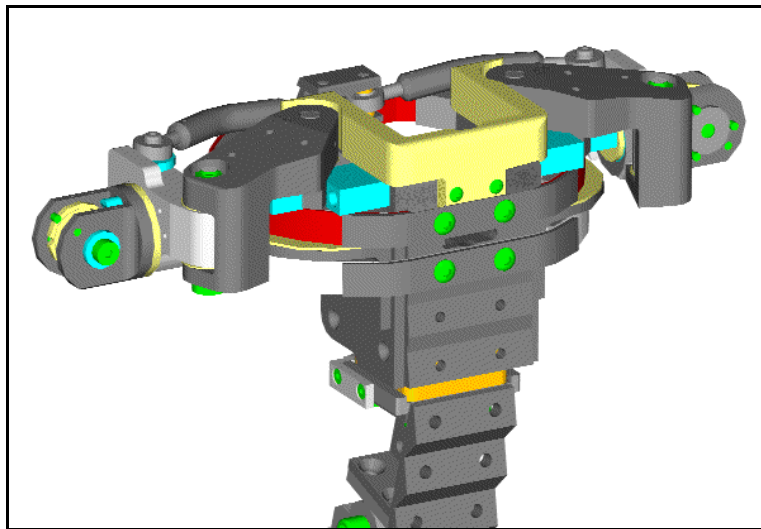

Figure 7.9- Positioning of Rib #2
6. Position Elliptical Rib #1 (T1TXM310) as shown in **Figure 7.9**. This rib assembly is marked with the number “1”, the mark being oriented correctly to denote the top and bottom of the rib. The rib must be located above the rib support bracket and the rear of the rib should be centered over the Upper Thoracic Spine Weldment to line up the holes. Since the shoulder hardware can make insertion of this rib troublesome, the following description may be helpful for positioning this rib: Pass the open end of rib around the right-hand clavicle rod at the front of the dummy and above the rib support on the right-hand side (with the open end facing the rear of the dummy). Rotate the rib (clockwise as viewed from the top) around the upper thoracic spine until the open end is again at the front (i.e. the rib must pass across the rear of the upper thoracic spine weldment and above the other rib support).
8. Position Elliptical Rib #2 (T1TXM320) and Elliptical Rib Stiffener #2 (T1TXM011) on the back of the upper thoracic spine weldment and secure with two 5/16-24 x 1/2" BHSCS-NP {3/16}, as shown in **Figure 7.9**.